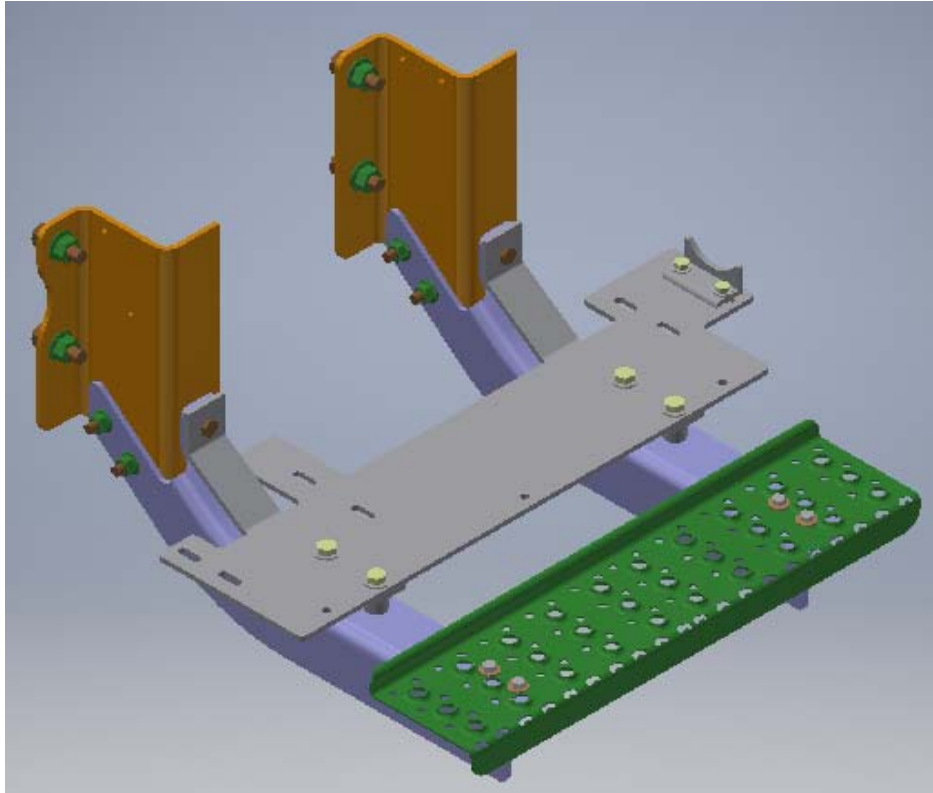

Figure 3: Brake Support Bracket
6. Install the Brake Pump Support (R-20453) Bracket using the supplied 3/8" x 1 1/4" bolts and associated hardware. (Figure 3)